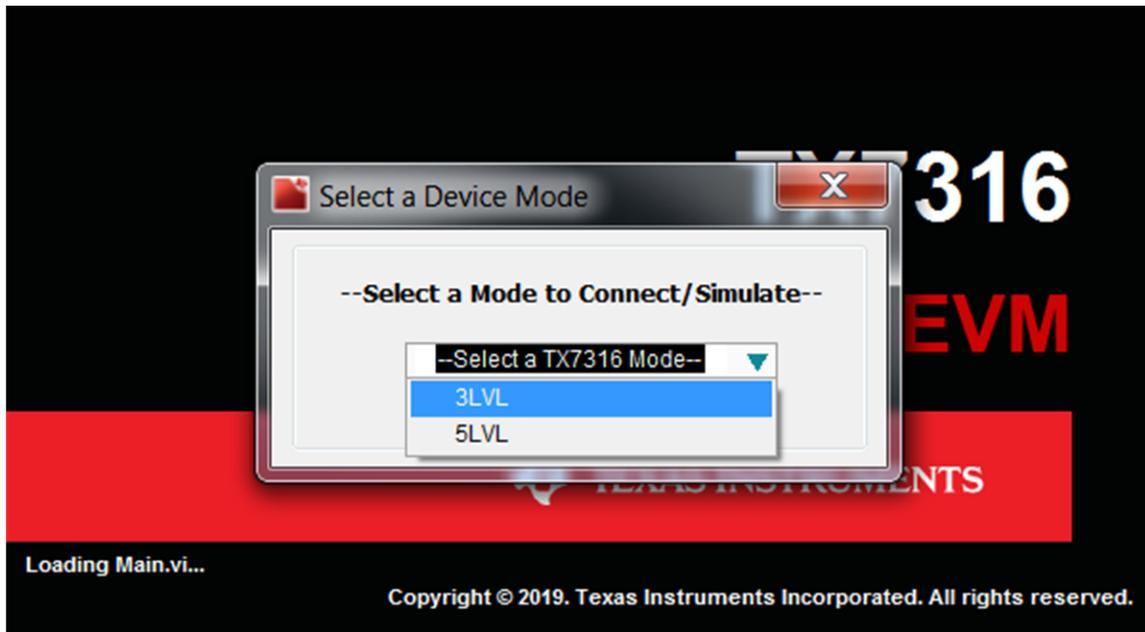

Figure 43. Select a Device Mode Pop-up Window
4. **On-chip beamforming:** To check on-chip functionality, first ensure that the power supplies are powered off. Then, connect the USB cable to the board and open the GUI. Select 3-level mode in the *Select a Device Mode* pop-up window(See Figure 43). Turn on the power supplies once the GUI is loaded. Click *DUT HW Reset* button on the *Quick Setup* page (See Figure 44) to hardware reset the device and then click *Reset Memory to 0* button to initialize the memory.